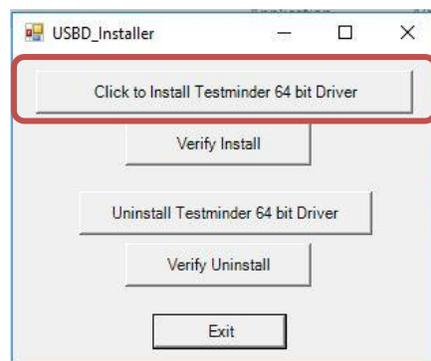
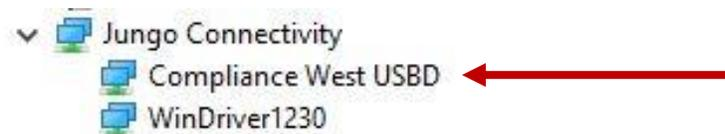

Figure 13 Driver install screen
Figure 15 Device manager verification
14. On the screen that pops up, click on the button "Install Testminder 64 bit Driver" (Figure 13).
16. When driver installation is complete, the installation windows will close automatically. If you want to verify that the driver was properly installed, either click on the “Verify Install” button (Figure 13), you will get a little pop up confirming the installation, or to be sure go to “Control Panel” on your PC and open up “Device Manager”, look for “Jungo Connectivity” and under it you should have “**Compliance West USBD**”(Figure 15).